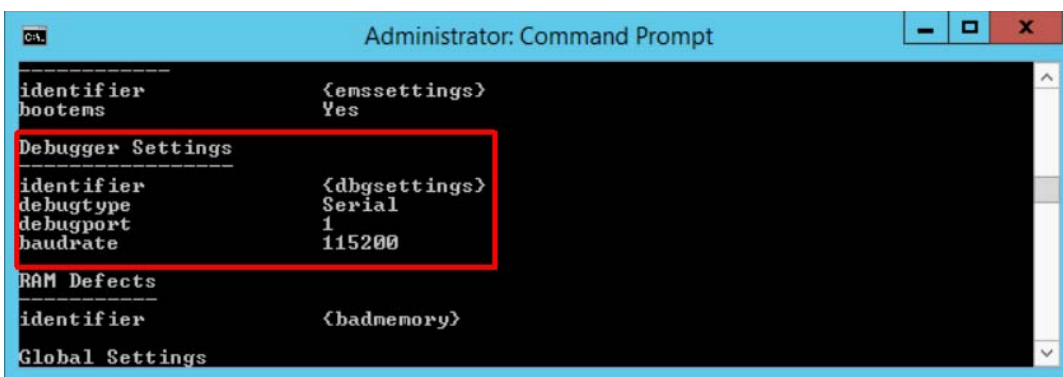

Figure 6 : Verification of debug settings
- Type the following command in Windows command prompt – “bcdedit /enum all”. There will be a lot of information, but scroll down to find the “Debugger Settings” section. If everything is correct the settings should look like in Figure 6: